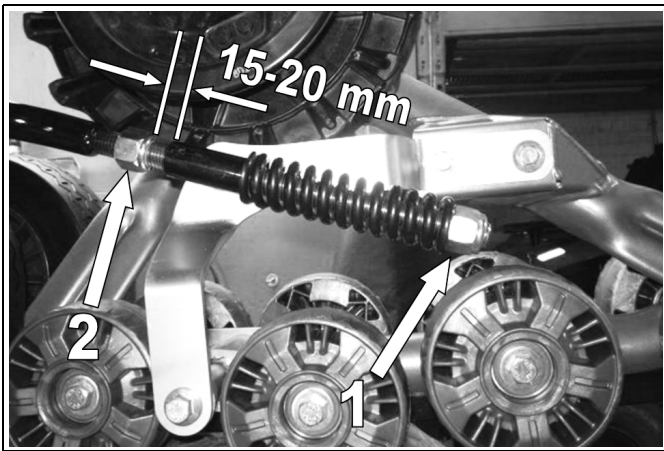

Figure 7
- Loosen the nut (1) compressing the spring of the stabilizing rod (see Figure 7).
- Set the nut (2) to obtain a distance of 15-20 mm as shown.
- Turn the nut (1) until it comes in contact with the spring, then compress the spring by turning this nut 1.5 turns.